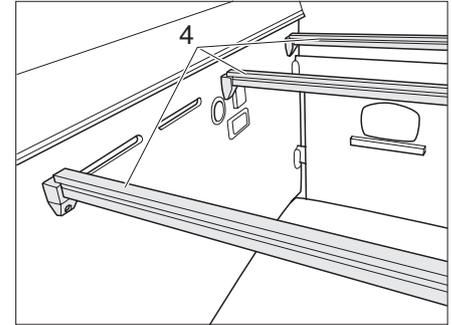

Fig. 52 Slatted frame support bars
- ▶ Remove 3 support bars (Fig. 52,4) of the slatted frame from the holders.